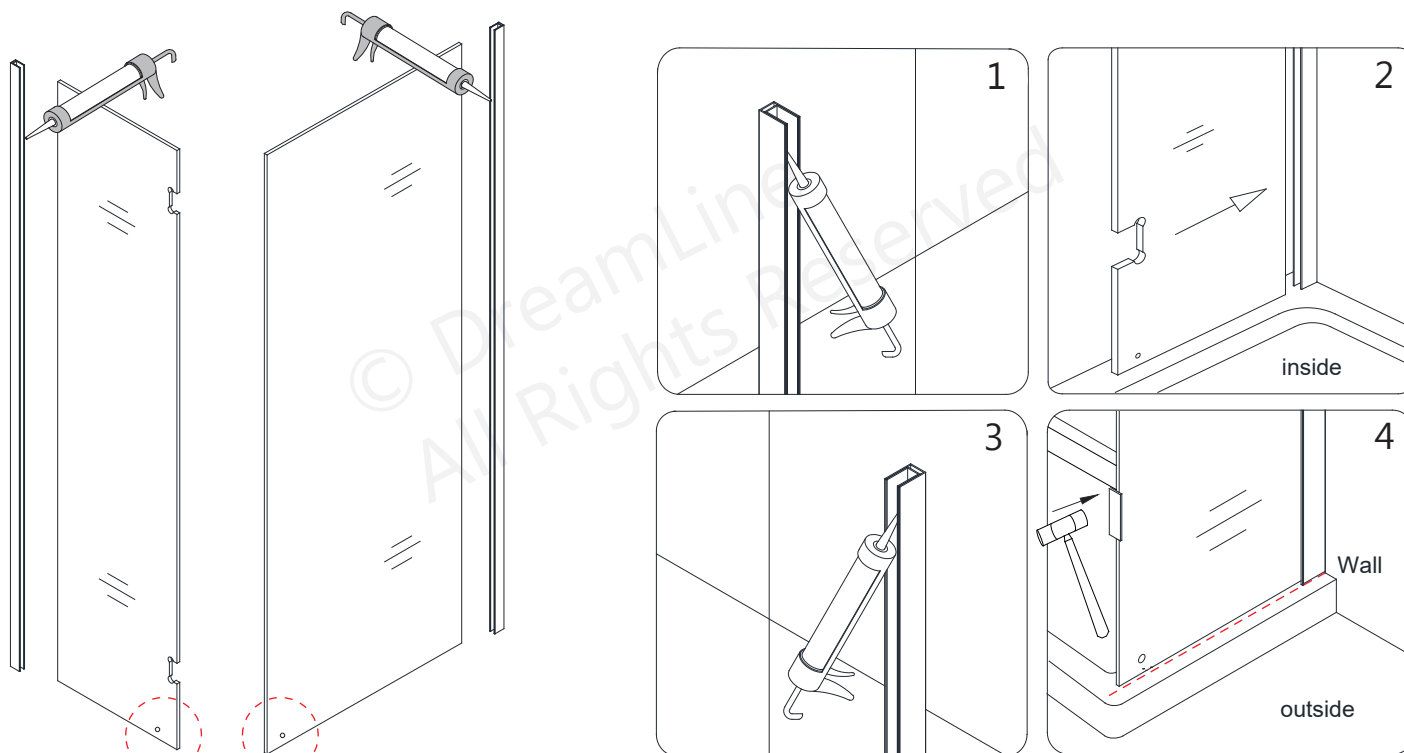

Fig 4
4. Add silicone into the installed **Stainless Steel U-Channels (#11)** before installing the panel glass into the channels. If necessary, tap with a rubber mallet and a block of wood. (**Fig 4 and Fig 5**)